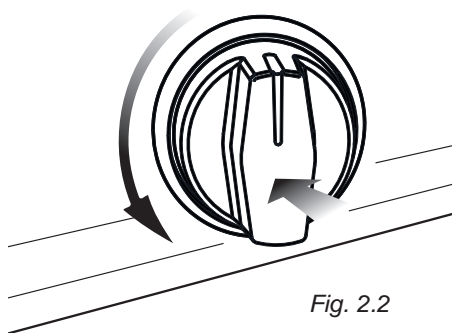

Fig. 2.2
- 1 – Push and turn the knob in a counter-clockwise direction up to the **★HI** position (maximum rate), push in and hold the knob until the flame has been lit (fig. 2.2).
2. Push and turn the dial in a counter-clockwise direction up to the **★HI** position (maximum rate), push in and hold the dial until the flame has been lit (fig. 2.2)